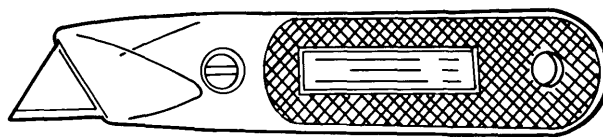

Figure 4-50. Utility Knife
(1) Utility knife. The utility knife can be used to cut cardboard, and paper. It has an aluminum handle, and is furnished with interchangeable blades which are stored in the handle. A typical utility knife is shown in figure 4-50.